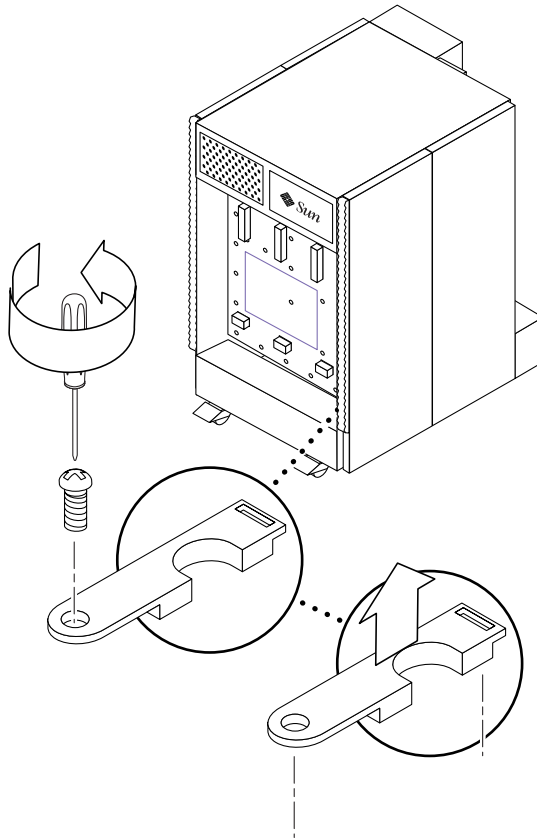

FIGURE 12-24 Removing the Cable Guide—Sun Fire 4800 System
4. Replace the plastic cable guide (FIGURE 12-24).